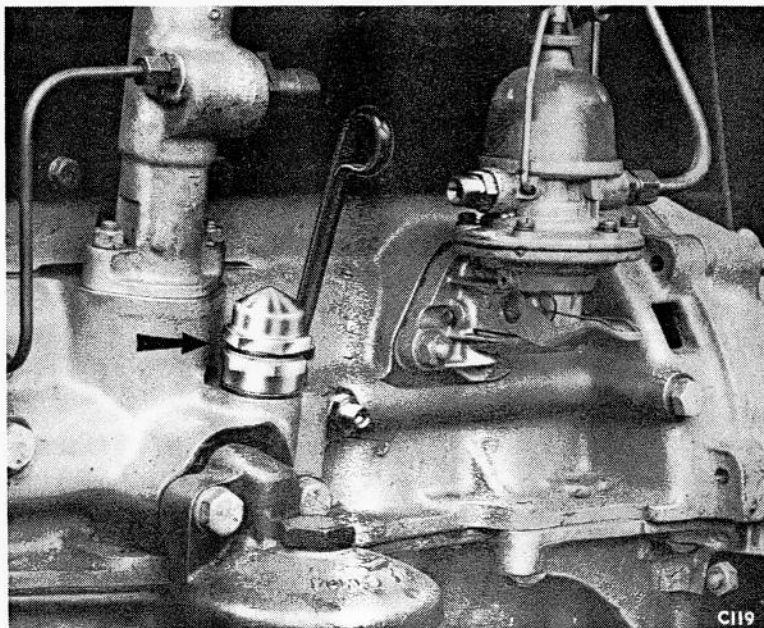
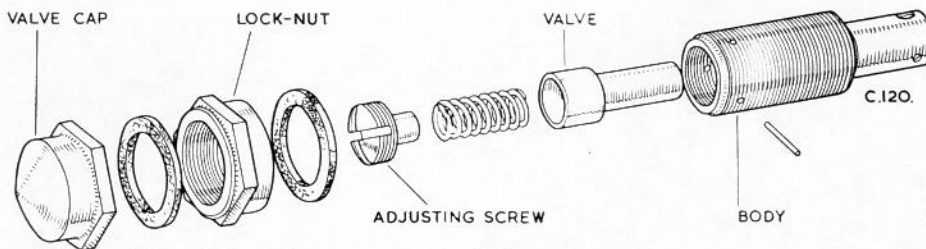

Fig. 16 Pressure relief valve.
Fig. 17 Pressure relief valve components.
Located on the left-hand side of the cylinder block, see Fig.16, the oil pressure relief valve is interposed in the supply from pump to filter. The assembly comprises the body, relief valve, spring adjusting screw and lock-pin, and is screwed into the cylinder block where it is secured by a locknut, a cap closing the outer end. The valve body has three equally-spaced outlet ports, as shown in Fig.17; this eliminates valve flutter.
3. Extract the adjustor retaining pin, unscrew the adjusting screw and withdraw the valve and spring, see Fig.17.